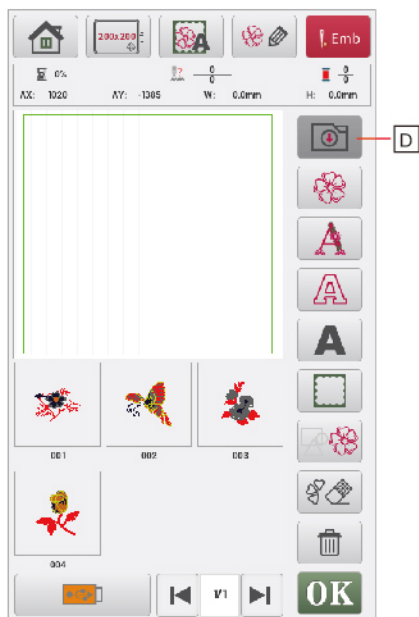

Figure 12
- (3) In Figure 12 interface, the imported patterns are saved in D. Then select patterns for editing and embroidery